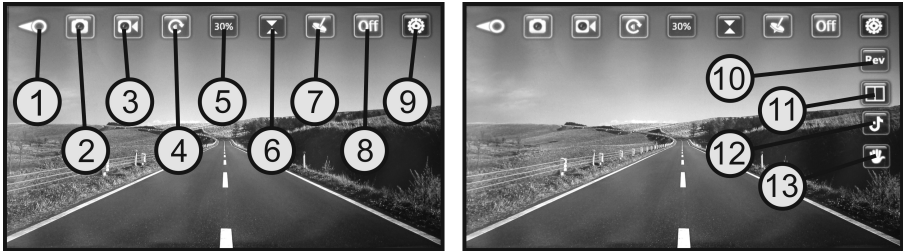
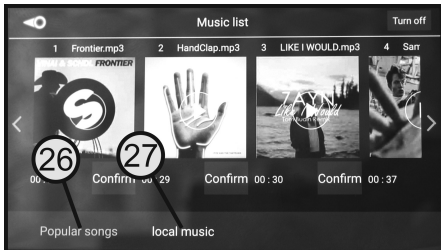

Figure 19
Figure 26
The symbols shown in Figure 19 have the following function:
Press the virtual joystick button (see Figure 19, no. 8) to view additional displays and buttons:
The background images shown in Figures 19 to 21 only appear if the app has been activated with the helicopter switched off. When the helicopter is switched on and paired with the smartphone, the current camera image appears in the background.
→ You can also insert the smartphone into video glasses, if necessary. In this case, use the button for VR switching to switch the image (see Figure 19, no. 11). The large general image is then split into two single images to create a 3D effect in the glasses.
If the smartphone is paired with the helicopter and the camera image appears on the display, just tap the photo capture button (see also Figure 19, no. 2) or video capture button (see Figure 19, no. 3).
If the gesture control button (see also Figure 19, no. 13) has been activated, a flat hand (24) and a fist (25) will appear on the left edge of the screen as well as a frame in the camera image.
To call up the music list, press the music archive button (see Figure 19, no. 12). You can select between preset songs "Popular songs" (see Figure 26, no. 26) of the local music list "Local music" (see Figure 26, no. 27).
After selecting one of the songs with "Confirm", the display switches back to the camera image. In addition, a clef is shown on the left of the image (see Figure 26, no. 28).
You should set the control sensitivity to 60% or better to 100% using the control sensitivity switch button (see Figure 19, no. 5) in order for the helicopter to better respond to virtual joystick movements.